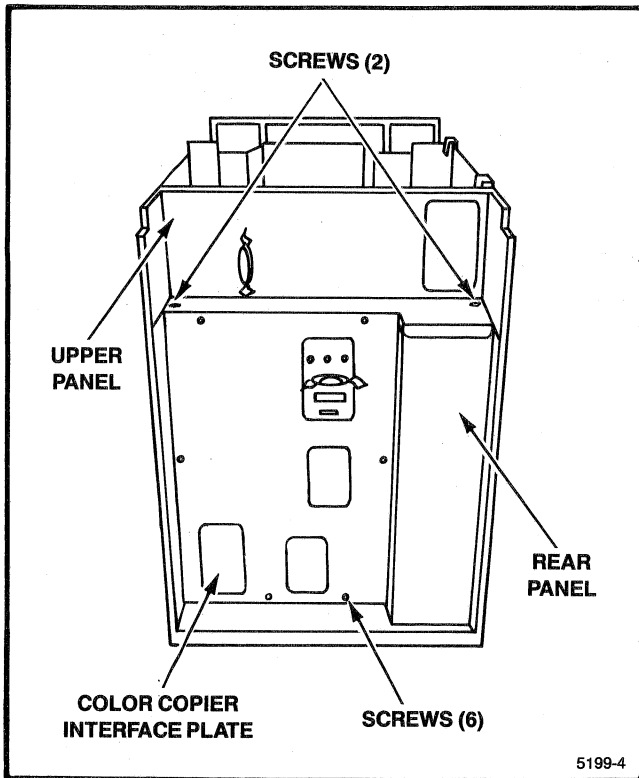

Figure 15. Rear Panel.
8. Remove the six screws holding the rear panel and the two screws holding the upper panel. Lift the upper panel approximately 1/2" and pull the rear panel up and toward you to remove. Remove the left option cover plate from the rear panel (Figure 15).